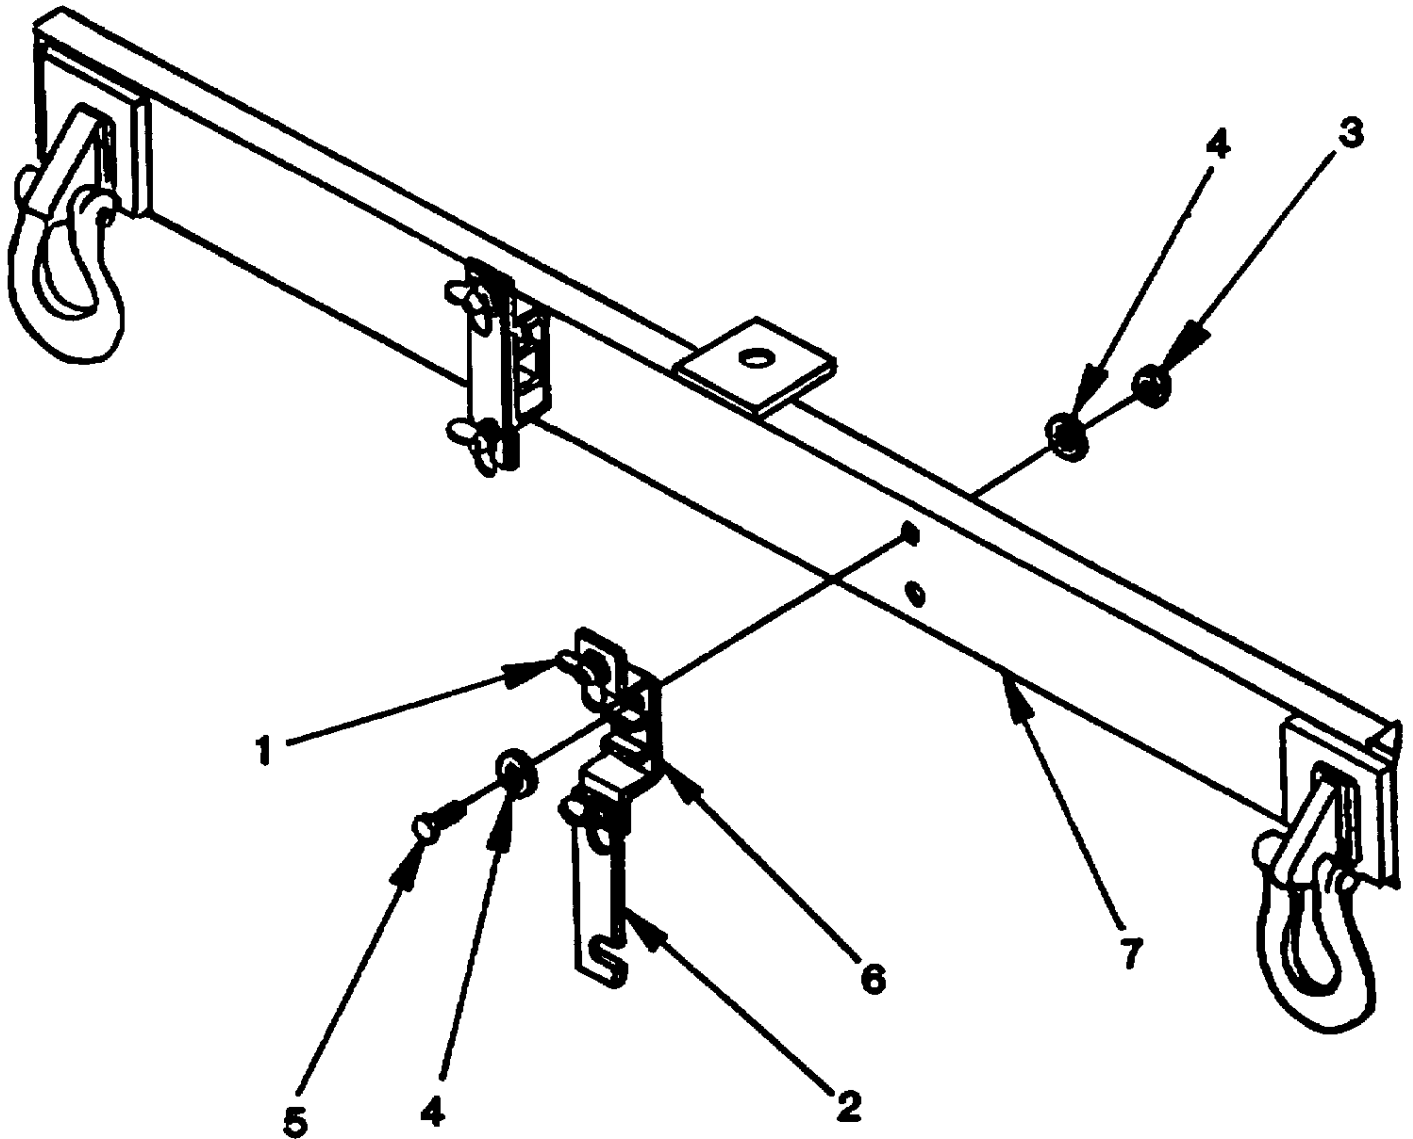

Figure 4-18. Impact Rod/Fuel Drum Adapter Bracket Assembly Replacement, AN/MJQ-32 Only.
- (1) Loosen two wing nuts (1, figure 4-18) which hold bracket assembly plate (2) in place and allow plate to swing downward.
- (2) Remove two locknuts (3), four flat washers (4), and two screws (5) securing bracket assembly (6) to front chassis (7).
- (3) Remove bracket assembly from front chassis.